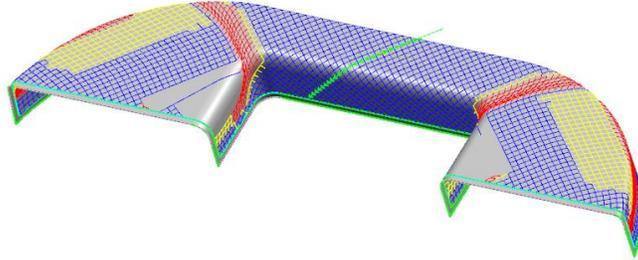

Figure 4–60
12. Switch to the NX window to display the producibility results as shown in Figure 4–60.